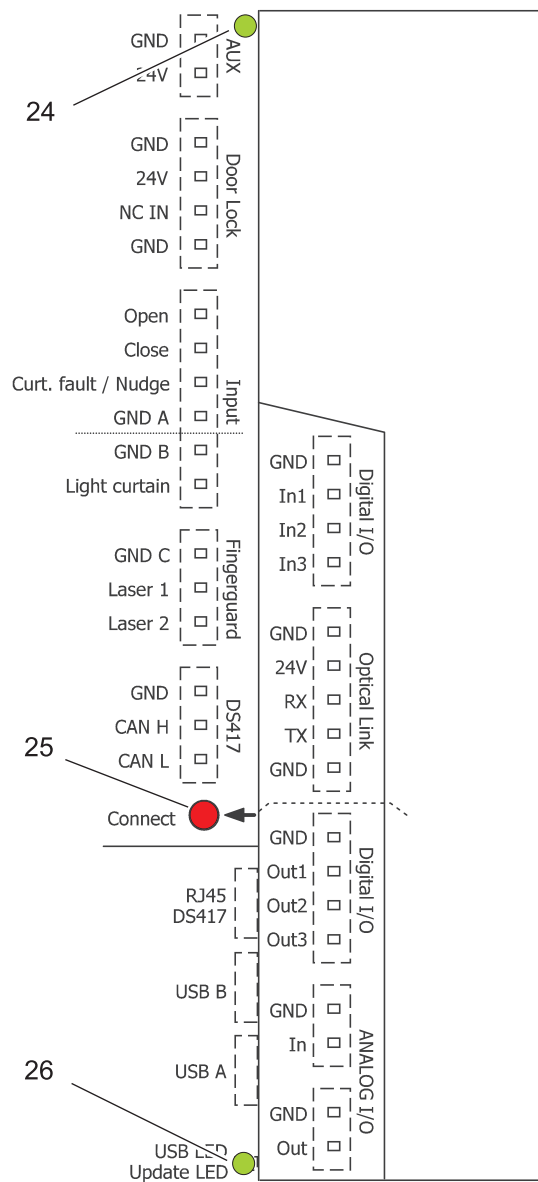

fig. 2
- Make sure that the power supply of the door drive system is switched on (LED AUX, pos. 24, Abb. 2)
- Press the "Connect" button on the control unit briefly (pos. 25, Abb. 2); a connection to the smartphone is established and the configuration and status data are transferred to the smartphone. The LED indicated by pos. 26, Abb. 2 flashes and the app displays "Connected"